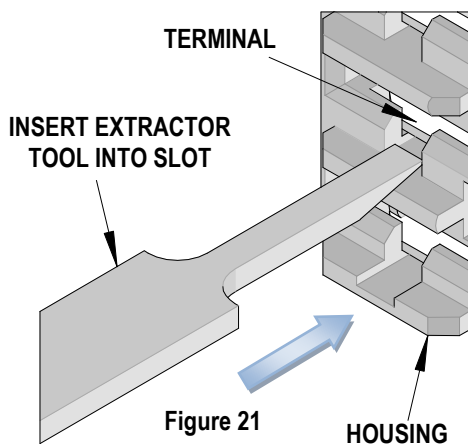

Figure 21
2. Insert the Extractor Tool into the slot below the terminal, seated in the connector housing and slide it forward until it stops. See Figure 21.